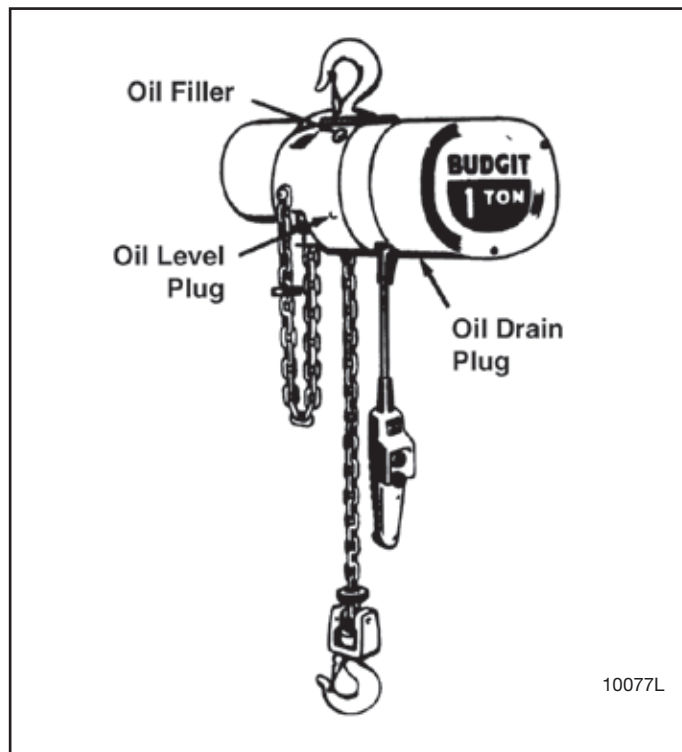

Figure 4-1. Location of Oil Filler and Plugs
4-2. CHANGE GEAR CASE OIL (Fig. 4-1).
(1) Check to see that bolts securing motor to frame are tight. Also check for any visible damage to motor, such as a cracked end bell or dented stator housing. Replace damaged parts.
(2) Check hoist frame for signs of visible damage. If frame shows evidence of fracture, the hoist should be disassembled and inspected for further signs of damage from possible overloading. Replace damaged parts.
(3) Check for possible damage to electrical compartment cover. Be sure screws holding cover are tight.
e. Check Oil Level. Remove oil level plug (fig. 4-1). If oil level is not even with bottom of tapped hole, add Automatic Transmission Fluid, DEXRON Type, to bring to proper level.